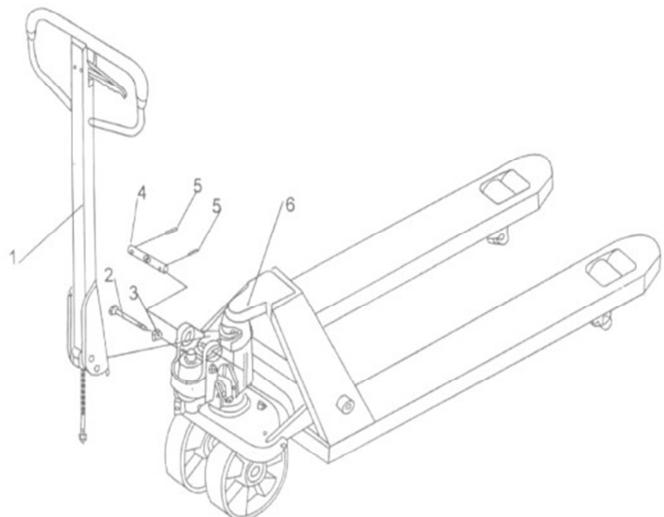

Fig.5 Tiller assembling (symbolic)
- c) Press the tiller arm down; take away the pin (2, Fig. 5).
- d) Set the control lever of the handle to 'QUICK LIFT' (LIFT) position, then raise the lever plate with the pin (2, Fig. 5) and insert the adjusting bolt into the front slot of lever plate. Note: Keep the adjusting nut under the lever plate.
e) Use a hammer to insert the 2nd dowel pin (5, Fig. 5) into the 2nd hole of the axle.